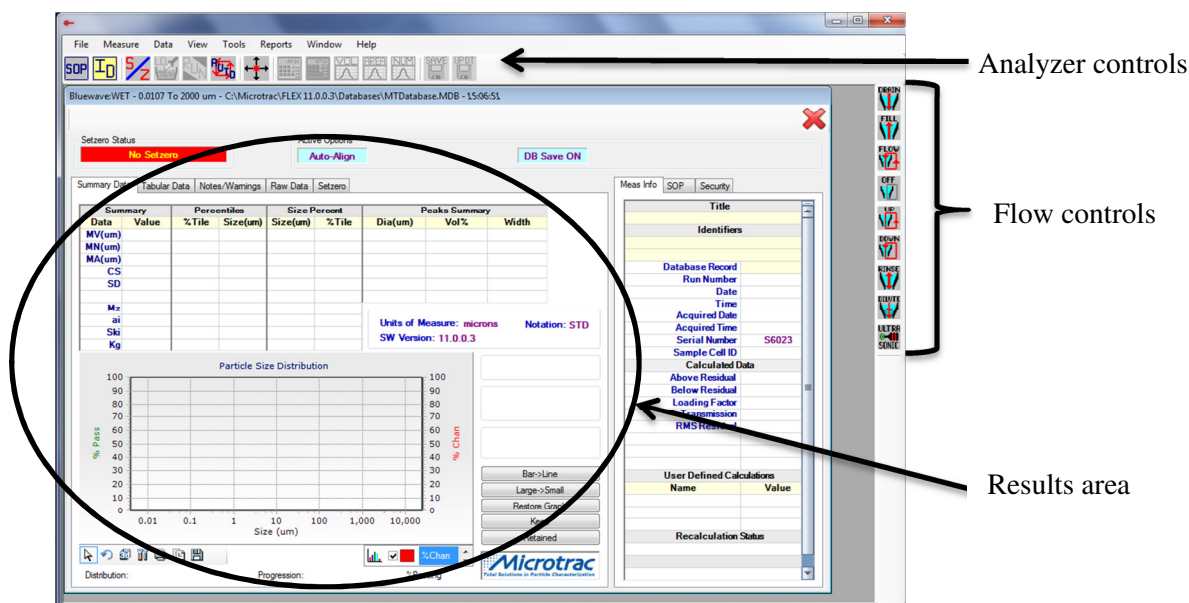

Figure 3. Flex software home screen
- d. Open the Microtrac Flex software. Figure 3 shows the Flex software start screen. The controls on the right side of the screen will be used to control the flow system. To operate the SIA simultaneously with laser diffraction, see the SOP for the Bluewave.
4. **Loading the sample.** Once the measurement has been designed in the PartanSI software, you must start the SDC flow system. Go to the Flex software home screen (Figure 3) and use the flow controls on the right side of the screen.